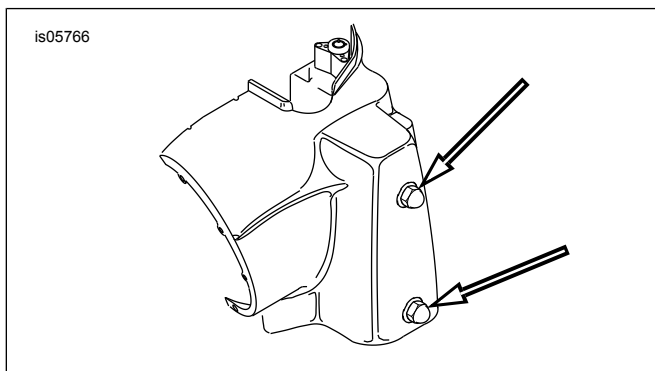

Figure 8. Headlamp Nacelle Fasteners (FLHR Models)
3. **Models without wind deflectors:** See Figure 8. Loosen the two acorn nuts securing the left half of the nacelle (see arrows). Repeat for the right half of the nacelle.
11. See Figure 8. Tighten two acorn nuts securing left half of the nacelle.